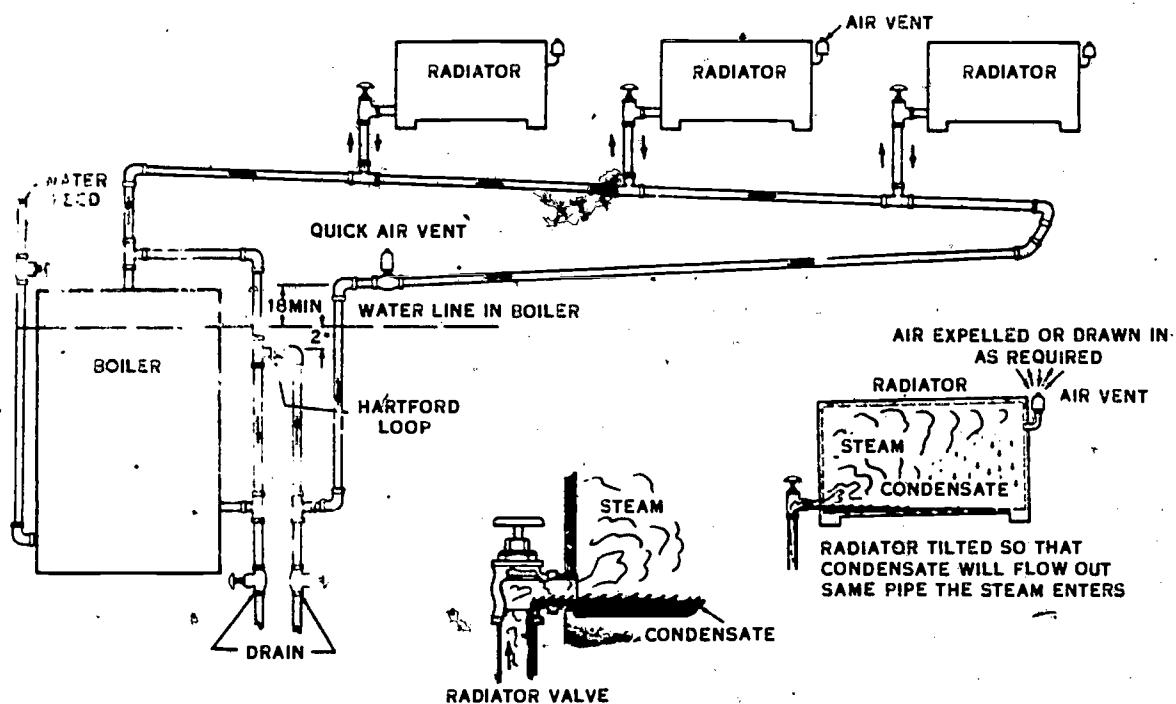

Figure 49. A gravity one-pipe air-vent system.
3. **Gravity, One-Pipe, Air-Vent System.** The gravity, one-pipe, air-vent system, shown in figure 49, is one of the oldest types of internal distribution systems. Its capacity is usually ample, and its installation cost is low. Because the condensate is returned to the boiler by gravity, this system is usually confined to one building and is seldom used as a central plant distribution system. The steam is supplied by the boiler and is carried by a single system of piping to the radiators. The return of condensate depends upon the hydrostatic head. Therefore, the end of the steam main, where the main is drained to the wet return, should be high enough above the waterline to provide the required hydrostatic head above the entrance to the boiler. The radiators in the system are equipped with an inlet valve and an air valve. The inlet valve is the radiator shutoff valve, while
6. Air vents are installed in the steam lines and radiators to eliminate any air in the system. Air in the system tends to block the flow of steam, and it consequently acts as an insulator and prevents the emission of heat from the heating surface. Therefore, the air must be quickly and effectively vented from the heating equipment and steam lines to get quick and even heating from the steam-heating system. Most steam distribution systems are now fitted with automatic vents which will permit the air to pass but which block the passage of steam. Figure 49 shows air vents in the radiator and the distribution system.